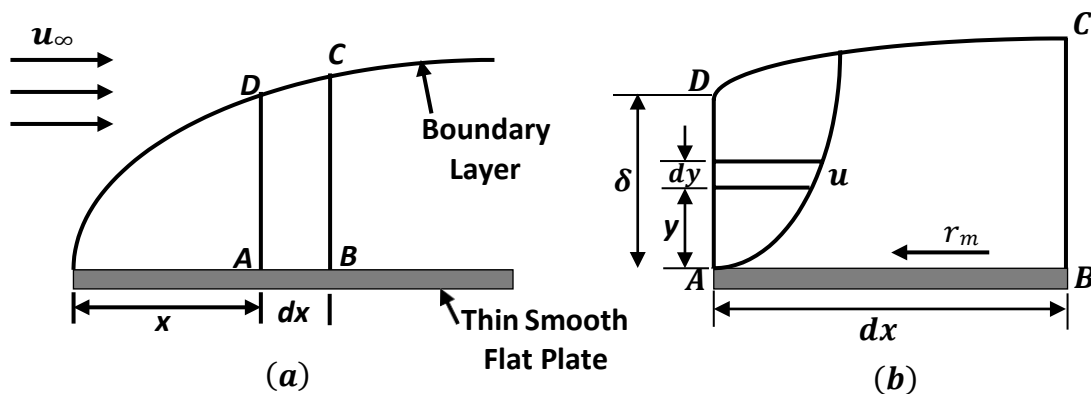

Fig. 7.10 Momentum equation for boundary layer by Von Karman
- Fig. 7.10(a) shows a fluid flowing over a thin plate with a free stream velocity u_∞ .
- Consider a small length dx of the plate at a distance x from the leading edge as shown in Fig. 7.10(a).
- The enlarged view of the small length dx of the plate is shown in Fig. 7.10(b).